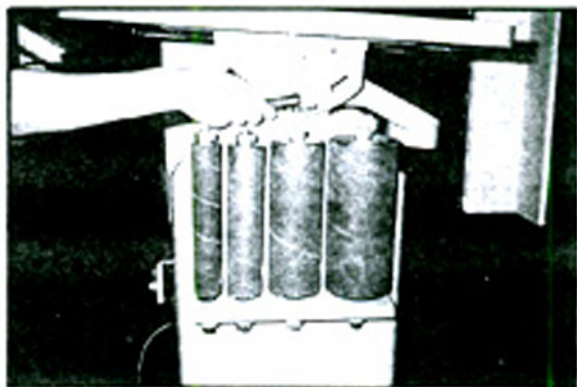

FIG 5.
6. IN ORDER TO SAND ELLIPTICAL SHAPES, LOOSEN THE LOCK KNOB UNDER THE TABLE, TILT THE WORKING TABLE TO THE DESIRED ANGLE, AND RE-TIGHTEN THE LOCK KNOB. (SEE FIGURE 5.)